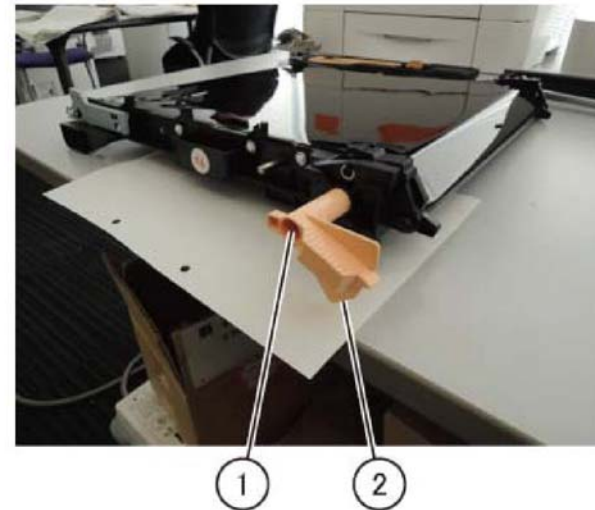

Figure 4 Retract handle
7. Remove the screw (1) and remove the retract handle, Figure 4.